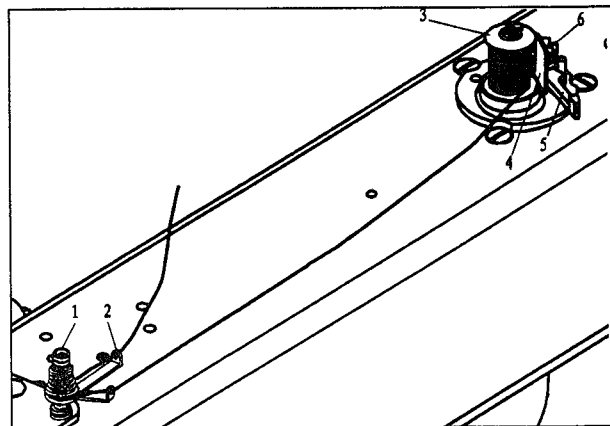

Fig.3
5. WINDING OF BOBBIN THREAD (Fig.3)
6. ADJUSTMENT OF THE BOBBIN WINDER (Fig.3)